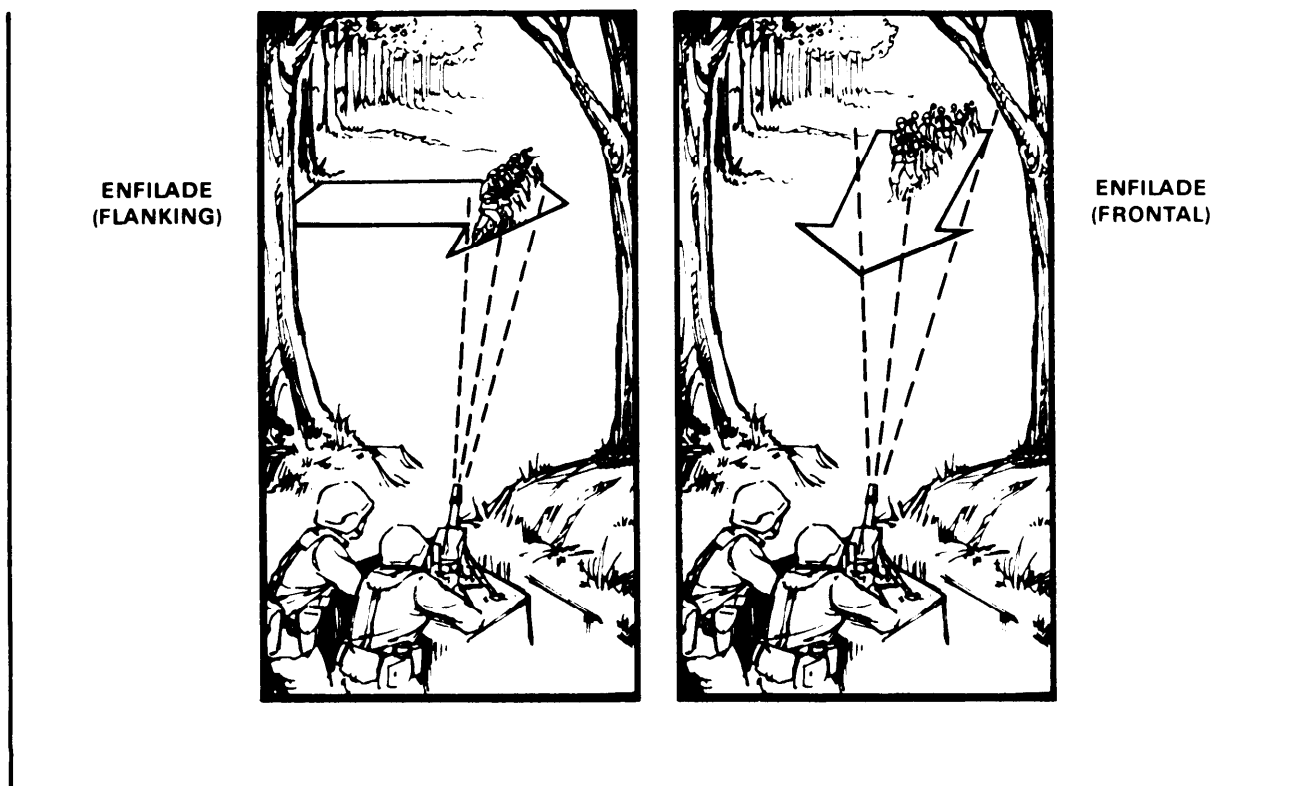

Figure 6-2. Classes of fire with respect to the target.
b. Respect to the Target. This class of fire is divided into four types of fire (Figure 6-2):
(1) Frontal. This type of fire is delivered against a target's front, with the target moving toward the firing position.
(2) Flanking. This type is delivered against the flank of the target.
(3) Oblique. This is fire directed at a target moving at any angle other than directly toward or perpendicular to the gun.
(4) Enfilade. This type of fire occurs when the long axis of the beaten zone coincides with the long axis of the target. Enfilade fire may be frontal or flanking, depending on which way the target is facing. For example, frontal enfilade occurs if the MK 19 is in the middle of a road and the target is approaching on the same road. Flanking enfilade occurs if the target is moving either way, left or right, yet is still in a long axis configuration away from the MK 19 .